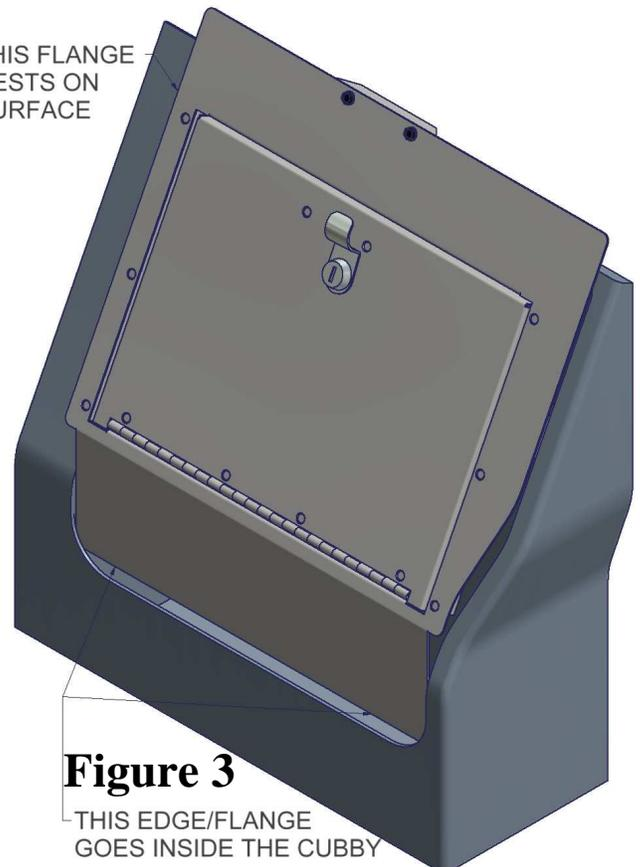

Figure 3
4. Install the Cubby Cover into the plastic cubby by slipping the lower flange into the cubby and lowering the Cubby Cover until the upper flange rests on the outer face of the cubby.(See Figure 3)